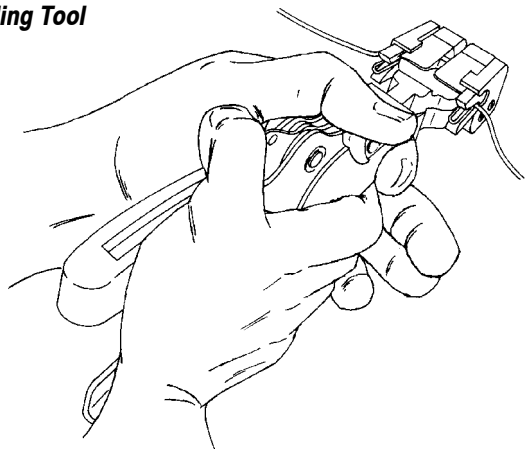

Figure 6
1. To hold the tool steady, grasp the front portion of the fixed handle with one hand and use the other hand to close the quick take-up lever and moving handle. See Figure 6.